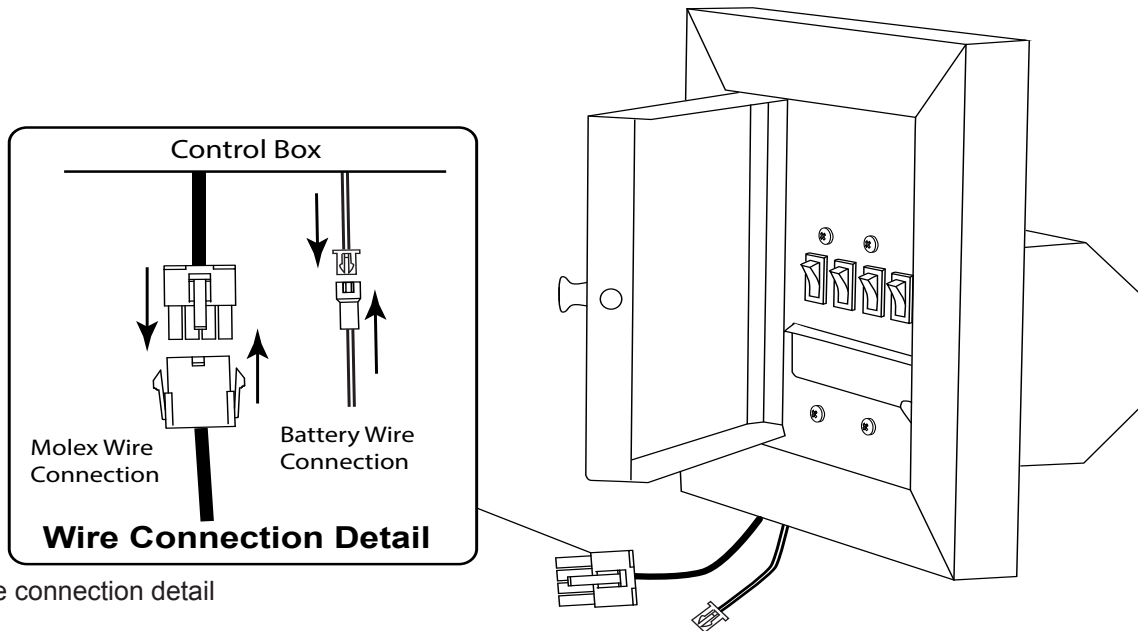

Fig. 16 Wire connection detail
**Step 7:** Feed the wire harness (# 77161) up to the control box and attach the Molex connectors from the module wire harness to the control box wire harness. At the same time, connect the 2-PIN connector (#VCS-ECOBBUEXT32) from module wire harness to the 2-PIN connector inside the control box. See Fig. 16. Refer to page 16 Fig. 13.